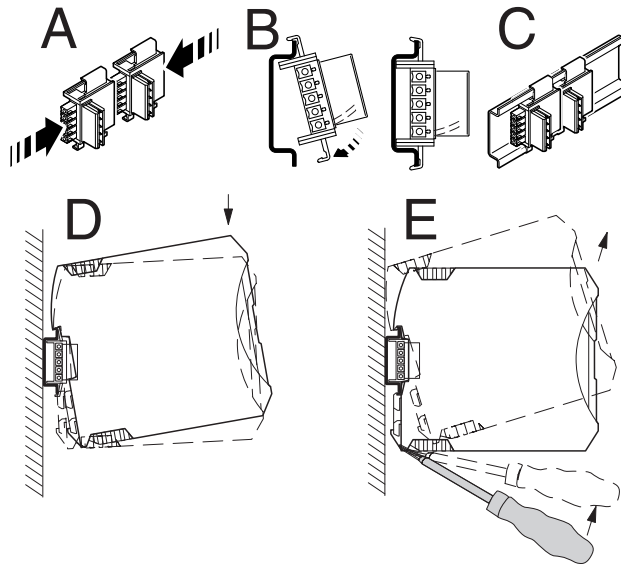

Figure 4-4 Mounting and removal
- Place the device onto the DIN rail from above (see Figure 4-4, D). Make sure that the device and DIN rail connector are aligned correctly.
- Use a suitable screwdriver to release the locking mechanism on the snap-on foot of the device (see Figure 4-4, E).